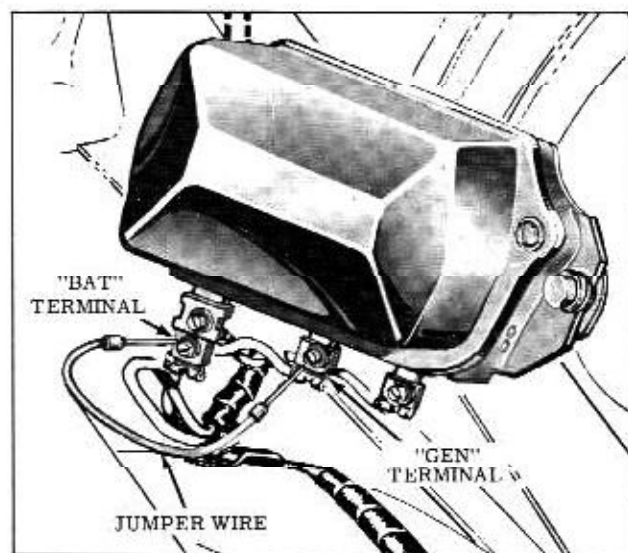

Fig. 13-20 Polarizing Generator
11. Polarize the generator by momentarily connecting a jumper wire between the "BAT" and "GEN" terminals on the regulator as shown in Fig. 13-20.